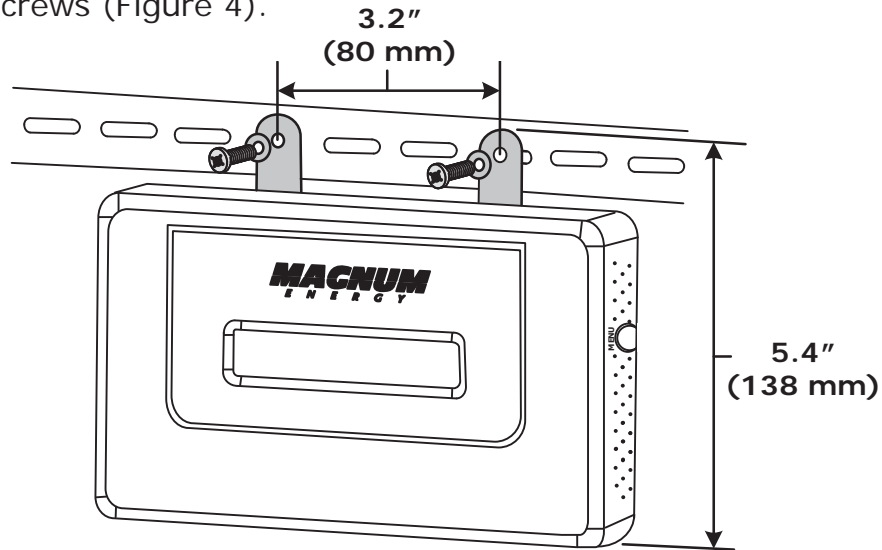

Figure 4, Mounting the MagWeb GT on a DIN Rail
2. Attach the MagWeb GT to the mounting rail with the appropriate-sized screws (Figure 4).